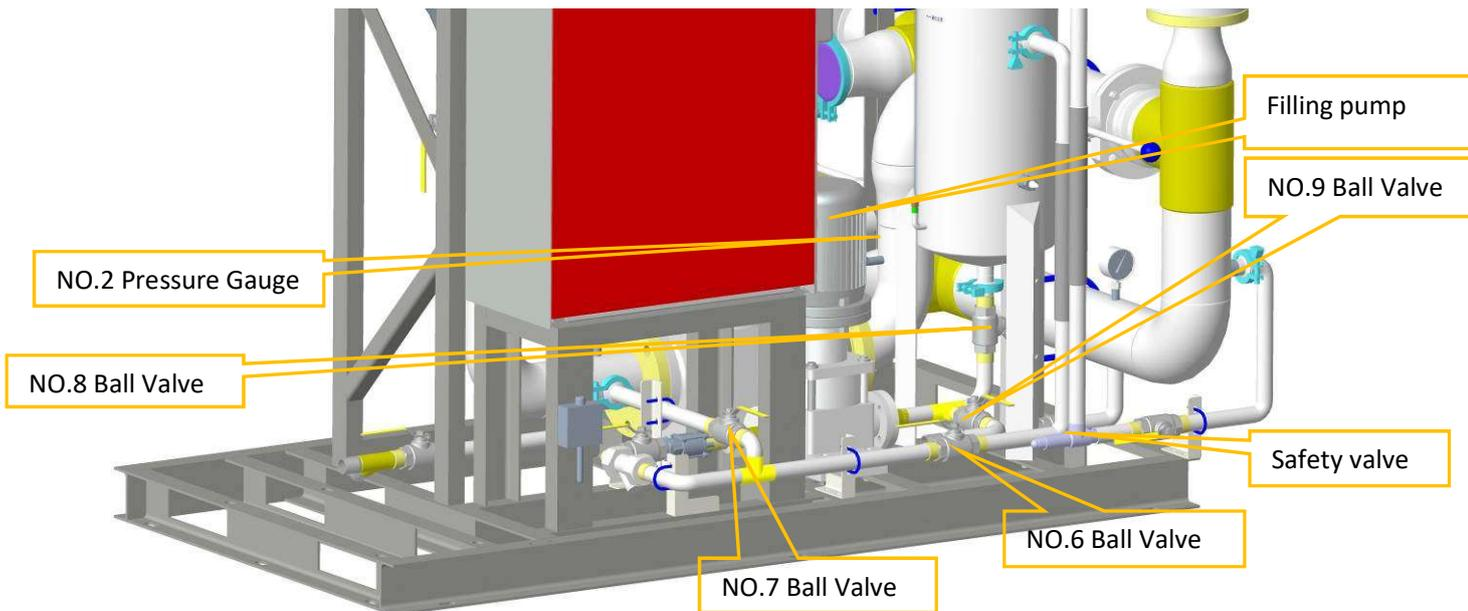

Figure 5-3-5 Pump station - charging valve
- 2) Close NO.8 Ball Valve and NO.6 Ball Valve as shown in Figure 5-3-5, open NO.7 Ball Valve, click on the filling pump on the touch screen interface, and turn it on. The refilling pump can be used for refilling both the system and the water tank. If the valve handle is parallel to the pipeline, the valve is in the open state; if the valve handle is perpendicular to the pipeline, the valve is in the closed state.